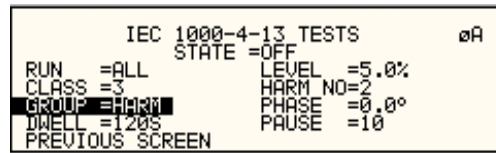

Figure 9-29: IEC 61000-4-13 Harmonics
If the Harmonics group is selected, the screen will appear as shown in Figure 9-29. The screen has the following parameters that are unique to the group:
7. To run an individual range, applicable for sweep and individual harmonics only, the desired range and the RUN RANGE mode must be selected prior to the start of the test. In case the harmonics group is selected, RUN RANGE will run the harmonics from the second harmonics to the harmonics number specified by the HARM NO field. See Figure 9-29.